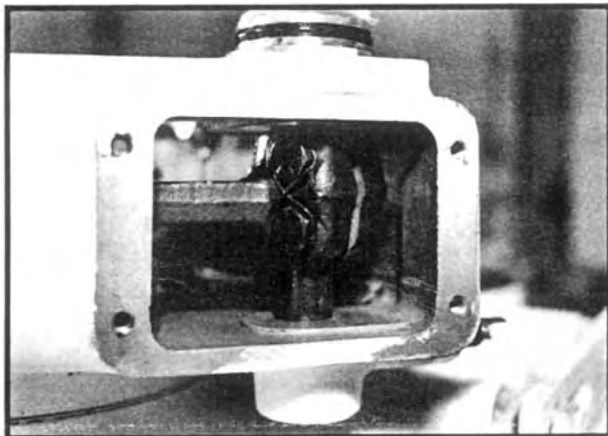

Fig 63
2. Slide the shift fork onto the clutch collar and place the two parts as a unit into the declutch housing. The clutch collar must be installed in the direction as indicated in Figure P.10 in the parts manual. See Figure 63.
3. Insert the shift shaft into position. Rotate the shaft so that the slots lineup with the bolt holes in the shift fork. Install the two shift fork bolts and torque to specification. Install the lock wire between the two bolt heads. See Figure 63.